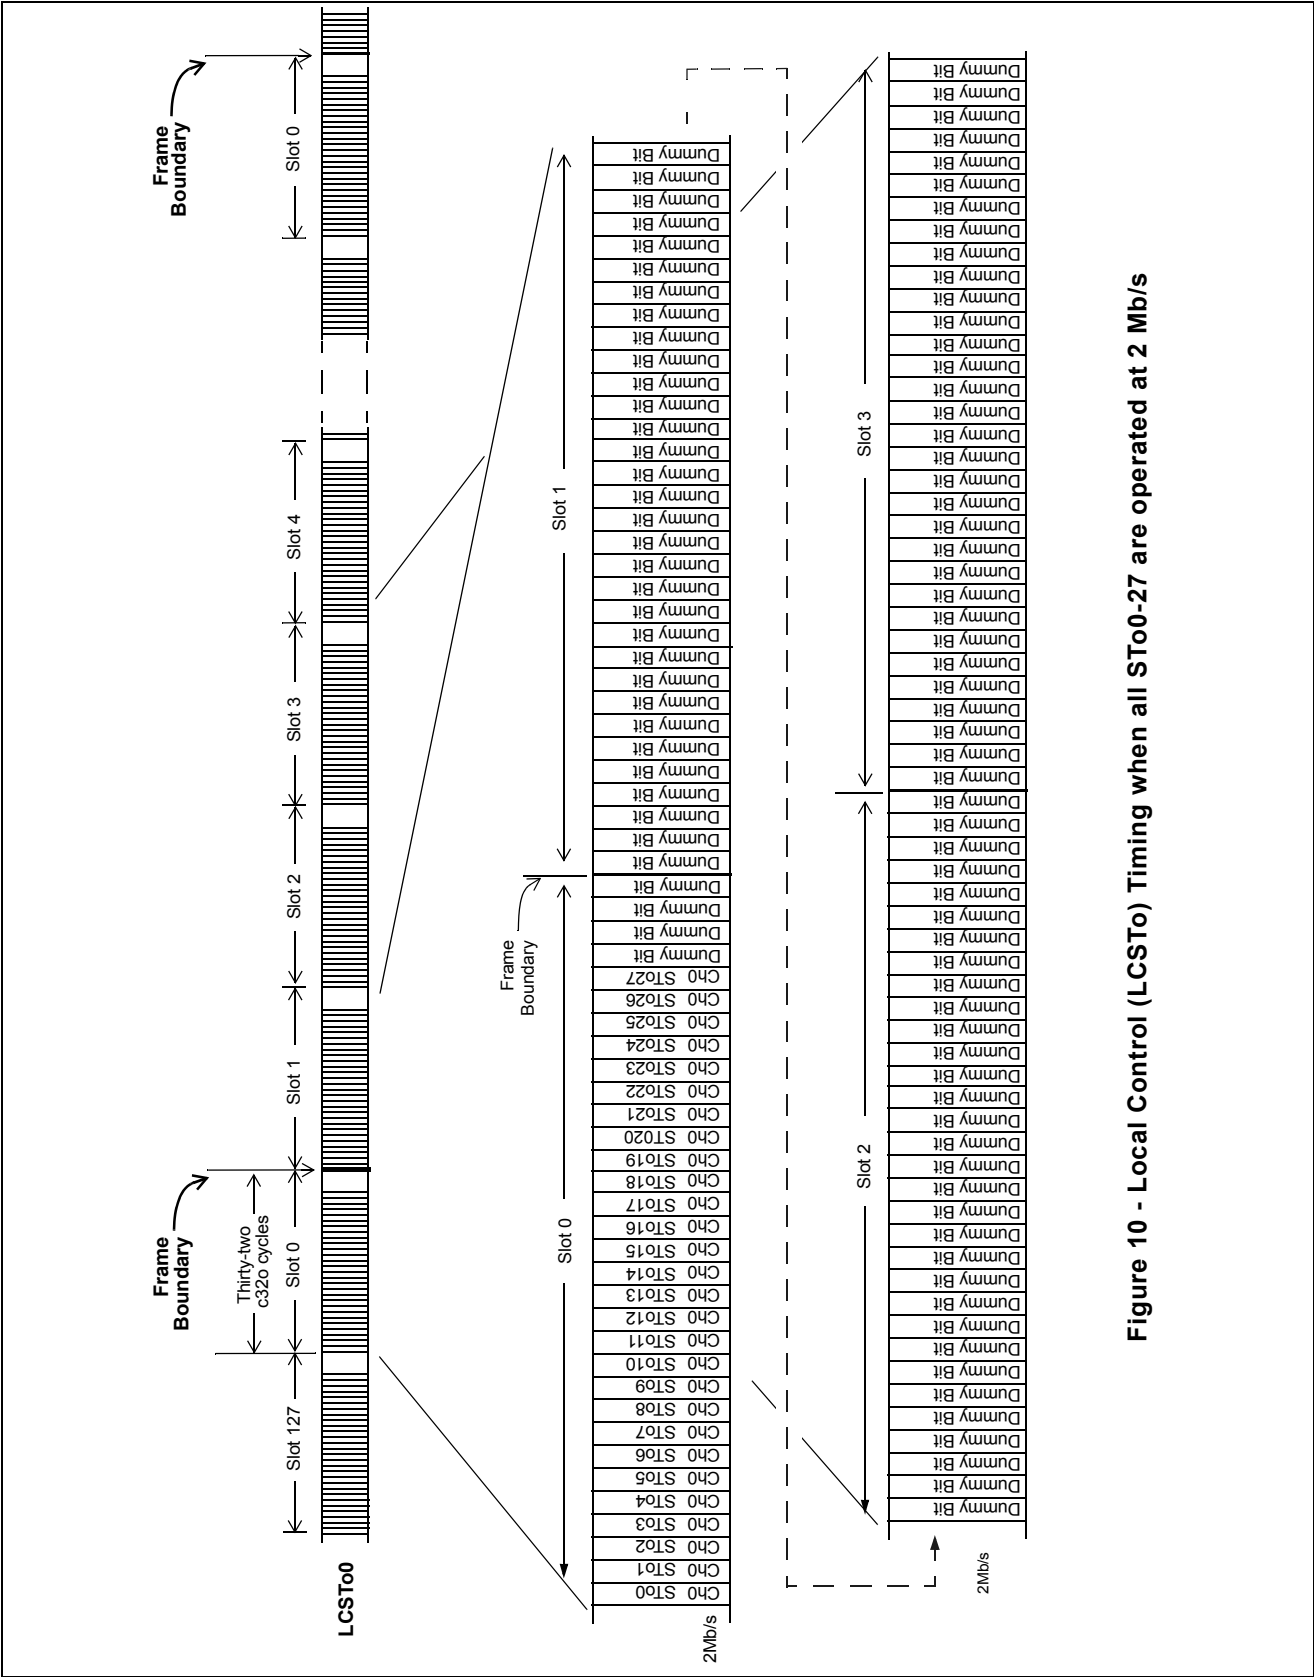

Figure 10 - Local Control (LCSTo) Timing when all STo0-27 are operated at 2 Mb/s
When the STo0-27 streams are operated at 2 Mb/s, Slots 4N (where N = 0 to 31) have the control bit pattern, but Slots 4N+1, 4N+2 and 4N+3 have dummy bits. See Figure 10, "Local Control (LCSTo) Timing when all STo0-27 are operated at 2 Mb/s" on page 30 for the LCSTo control bit pattern.
Figure 10 is a state transition diagram for the 2-bit priority encoder. It shows four states: Normal PRI (0), Normal SEC (4), MTIE PRI (3), and MTIE SEC (7). The transitions are labeled with 2-bit priority values (xx) and their corresponding 3-bit outputs (xxx). The legend indicates that xxx = {LOS_PRI, LOS_SEC, REF_SEL}.